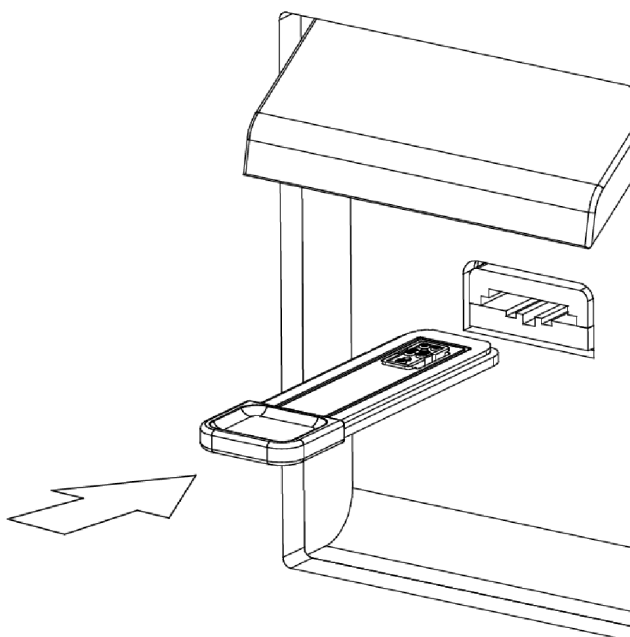

Figure 4. Insertion of the chip.
- Open the hatch (Figure 4).
- While keeping the cover open with one hand, gently insert the chip like indicated in Figure 4 (fluidic on the upper part), until it stops.